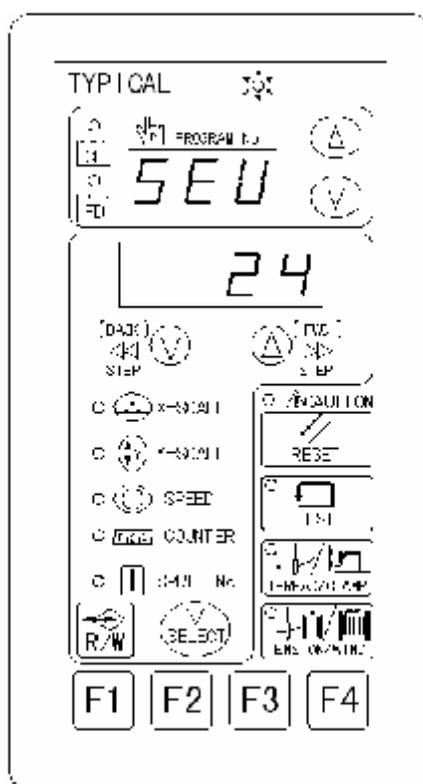

Fig. 5-10
- 3: Tread the pedal switch to 2nd gear, and then the system will automatically complete the all patterns. The key display is as shown in Fig.5-10, the sewing-start needle number is displayed on the menu area.